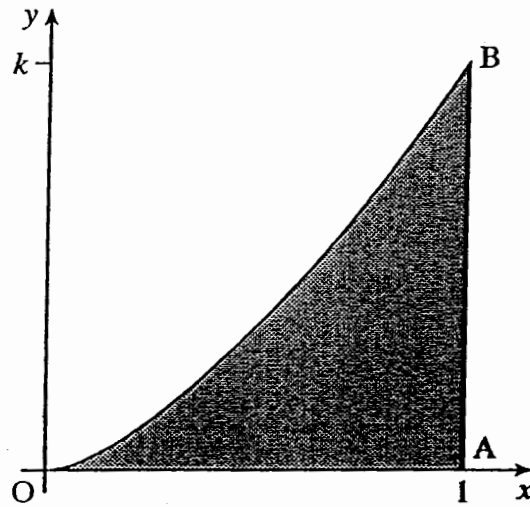

Fig. 3.1
- 3 Fig 3.1 shows a uniform lamina OAB in the shape of the region between the curve  $y = kx^{\frac{3}{2}}$ , the  $x$ -axis and the line  $x = 1$ , where  $k$  is a positive constant.